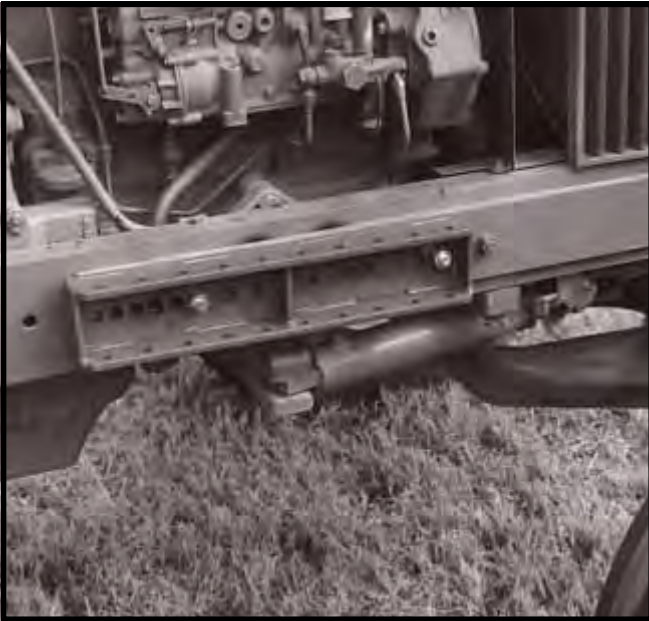
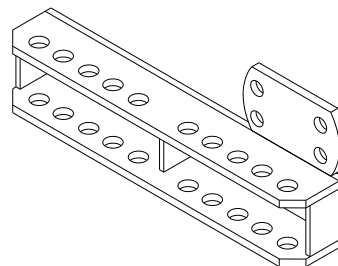

Figure 35
Figure 41
1. Bolt the appropriate tractor mounting bracket on both sides of the tractor using at least two (2) bolts on each side approximately ten (10) or more inches apart as shown in Figure 35. The short bracket (03-082-167), shown in Figure 35, is used on all John Deere tractors; most Case-International tractors and most later model Fords. The short bracket (03-082-167) is also used on all Massey Ferguson tractors with certain ones requiring an additional special adaptor bracket as shown in Figures 41, 42, and 43.
5. Most older Massey Ferguson tractors require a special weld-on plate (03-023-226, comes with short bracket) so four (4) mounting bolts can be used instead of just two (2) as shown in Figure 41.